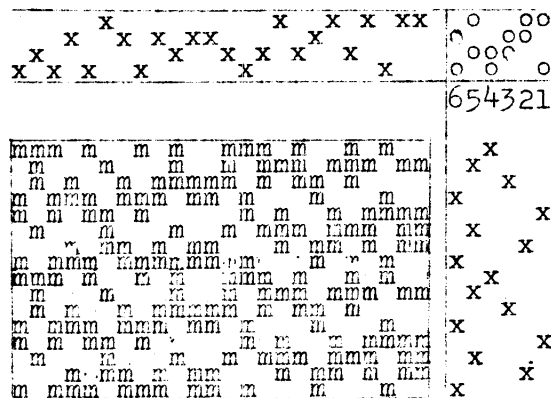
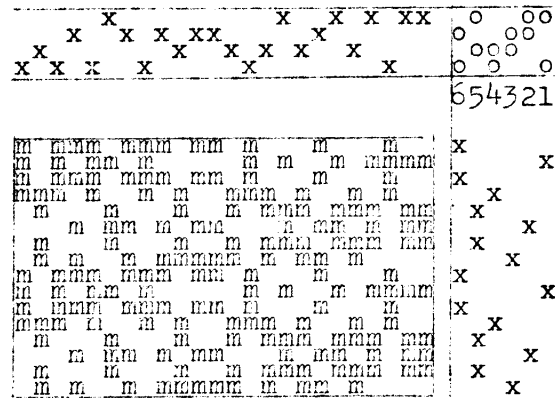

Fig. 3
Fig. 4
a mistake to follow the threading (weave as drawn in) because then we could not avoid having a diagonal, and besides this, one repeat of treading would be much too long to be practical. The best way is to experiment with treadlings on the loom. In fig. 3 and 4 we have two draw-downs made with the draft in fig. 2 C. The treading in fig. 3 is: 45361526, and in fig. 4: 61645253.
Both are satisfactory inasmuch as the repeat of treading is short (8) and easy to follow, but even at the first glance we can see that the treading in fig. 3 gives a very poor texture. First there is a very distinct suggestion of waviness if not of an out-right pattern (diagonals on the left, and small diamonds on the right); then the floats in warp are rather too short. There is nothing like that in fig. 4. Not a trace of a diagonal, and the floats in warp are about the same as the floats in weft (2,3,4 in warp, and 2,3,5 in weft).